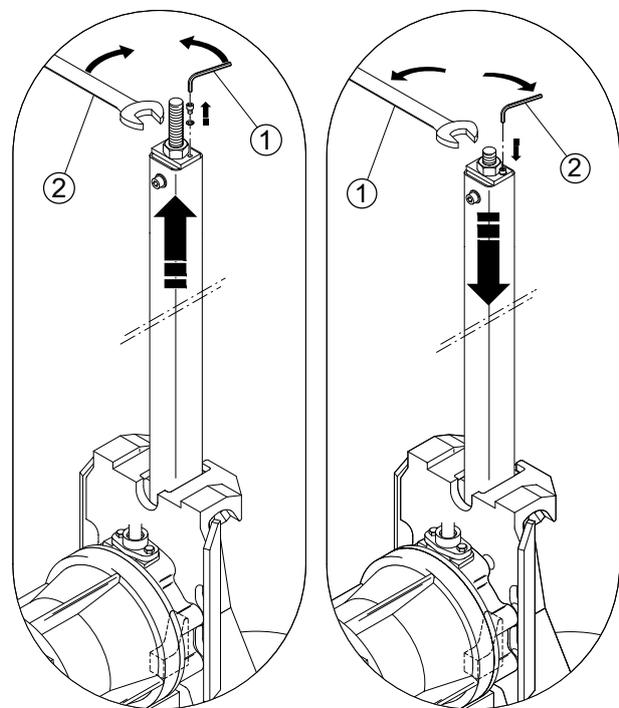

Figure 4 Locking/Unlocking of coupling system with freestanding installation (Variant B)
- Turn the tube holding screw counter clockwise (see figure 4) and tighten it with a tightening torque of 80 Nm. To secure the holding screw, screw in the socket head screw. If the tightening torque of 80 Nm of the tube holding screw will not be reached the unit has not coupled in a proper manner!